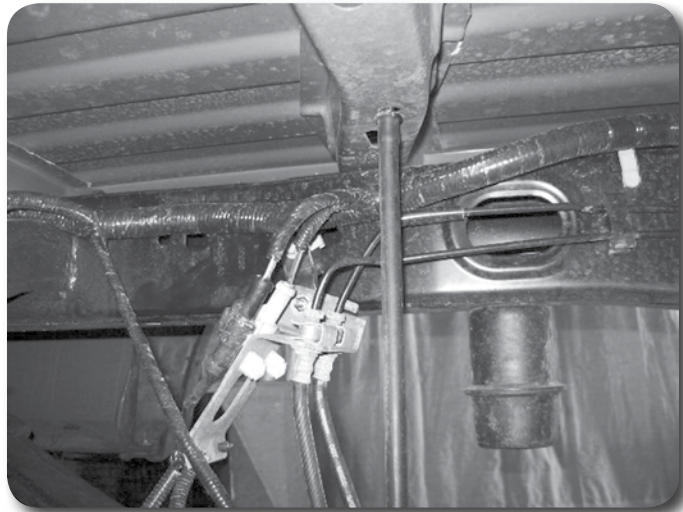

Figure 47
93. Install the provided brake line relocation bracket to the driver's side frame rail with the factory brake line bracket bolt **Figure 47**. Torque to 15 ft-lbs.